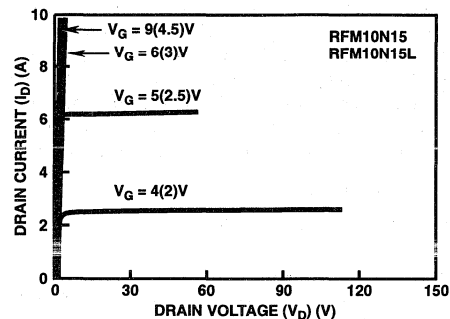
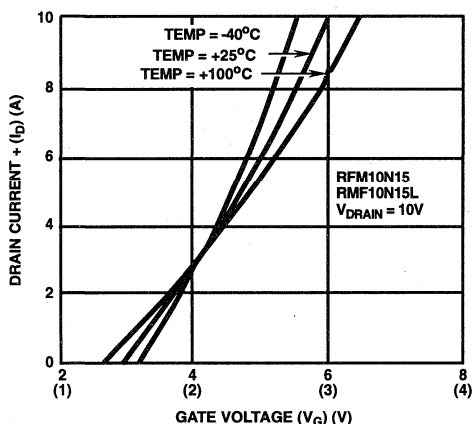

FIGURE 1. DRAIN CURRENT vs. DRAIN VOLTAGE CURVES FOR REPRESENTATIVE STANDARD AND L2FET DEVICES
FIGURE 3. TRANSFER CHARACTERISTIC
By contrast, a power MOSFET is a voltage-driven device whose gate terminal, Figure 1(a), is electrically isolated from its silicon body by a thin layer of silicon dioxide ( $\text{SiO}_2$ ). As a majority-carrier semiconductor, the MOSFET operates at much higher speed than its bipolar counterpart because there is no charge-storage mechanism. A positive voltage applied to the gate of an n-type MOSFET creates an electric field in the channel region beneath the gate; that is, the electric charge on the gate causes the p-region beneath the gate to convert to an n-type region, as shown in Figure 1(b). This conversion, called the surface-inversion phenomenon, allows current to flow between the drain and source through an n-type material. In effect, the MOSFET ceases to be an n-p-n device when in this state. The region between the drain and source can be represented as a resistor, although it does not behave linearly, as a conventional resistor would. Because of this surface-inversion phenomenon, then, the operation of a MOSFET is entirely different from that of a bipolar transistor, which always retains its n-p-n characteristic.
A useful by-product of the MOSFET process is the internal parasitic diode formed between source and drain, Figure 1(c). (There is no equivalent for this diode in a bipolar transistor other than in a bipolar darlington transistor.) Its characteristics make it useful as a clamp diode in inductive-load switching.
FIGURE 1. THE MOSFET, A VOLTAGE-CONTROLLED DEVICE WITH AN ELECTRICALLY ISOLATED GATE, USES MAJORITY CARRIERS TO MOVE CURRENT FROM SOURCE TO DRAIN (A). THE KEY TO MOSFET OPERATION IS THE CREATION OF THE INVERSION CHANNEL BENEATH THE GATE WHEN AN ELECTRIC CHARGE IS APPLIED TO THE GATE (B). BECAUSE OF THE MOSFET'S CONSTRUCTION, AN INTEGRAL DIODE IS FORMED ON THE DEVICE (C), AND THE DESIGNER CAN USE THIS DIODE FOR A NUMBER OF CIRCUIT FUNCTIONS.
where  $R_{CHAN}$  represents the resistance of the channel beneath the gate, and  $R_{EXT}$  includes all resistances resulting from the substrate, solder connections, leads, and the package.  $R_{BULK}$  represents the resistance resulting from the narrow neck of n material between the two players, as shown in Figure 1(a), plus the resistance of the current path below the neck and through the body of the device to the drain.
gate sensitivity, as shown in Figures 1, 2, and 3, which are comparisons of the industry standard RFM10N15 with its Logic Level FET counterpart, the RFM10N15L. (Although the L suffix notation in the type number will ultimately be valid for the entire product matrix, the L2FET product currently available is limited to n-channel devices handling 200V or less, with 15A ratings or less.)
Figures 1 and 2 are plots of drain current versus drain voltage with gate voltage as the running parameter. The L2FET gate voltage is in parenthesis. The low drain voltage curves of Figure 2 demonstrate that RON has not been sacrificed in the L2FET. Figure 3 is the transfer characteristic comparison